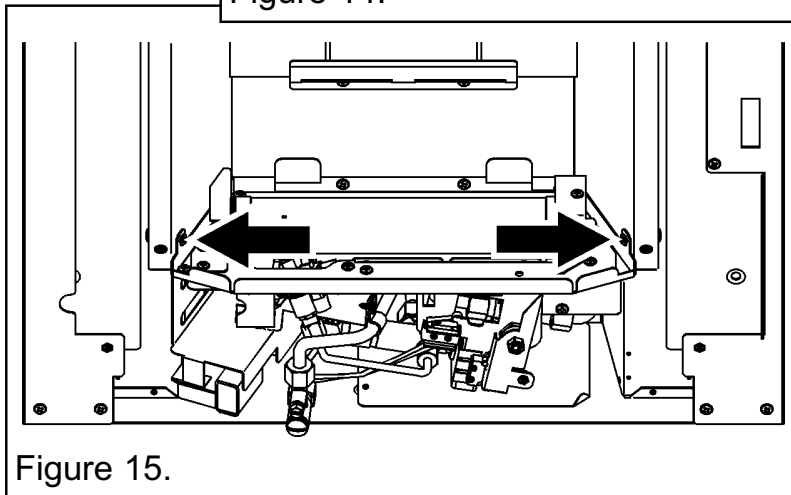

Figure 15.
4. Each unit is flame tested before it leaves the factory and as a result there may be slight discolouration around the burner ports. Detach the burner unit from the convection box by removing two screws (See figure 15). Lift the burner unit clear.
1. Fit the burner unit to the convection box with two screws (See figure 15).